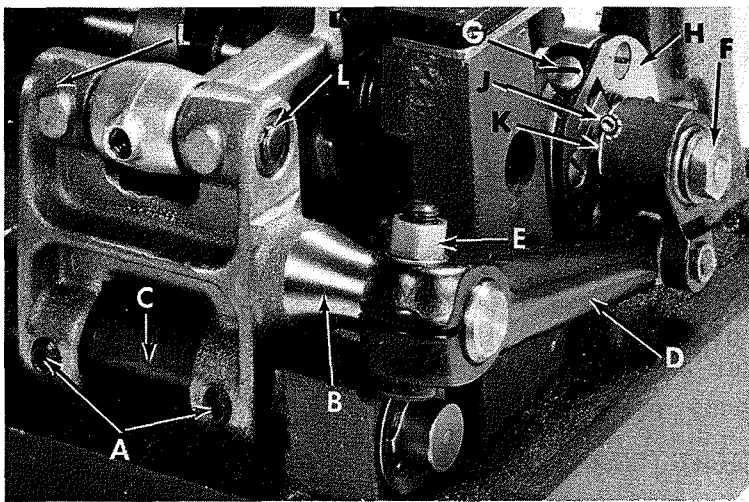

Fig. 11
Should it be necessary to move the feed dog to the left or right, loosen screws (A, Fig. 11) which hold the feed rocker (B) onto the feed rocker shaft (C), and move feed rocker to desired position and retighten screws. Make sure the feed rocker arm (D) does not bind after making this adjustment.
Should it be necessary to move the feed dog forward or backward, loosen nut (E, Fig. 11) which clamps the feed rocker arm to the feed rocker and move the feed rocker forward or backward as needed and retighten nut.
Set the stitch to required length. This is accomplished by loosening locknut (F, Fig. 11) 1/2 turn (it has a left hand thread) on the end of the stitch regulating stud and turning the stitch adjusting screw (G) located under the left end of the cloth plate, in the head of main shaft (H), which is marked with "L" and "S". Turning the screw clockwise shortens the stitch (moves stitch regulating stud toward the "S") and turning it in a counterclockwise direction lengthens the stitch (moves stitch regulating stud toward the "L"). Retighten locknut securely. To prevent destructive damage to the feed drive bearing, Key screw (J) must engage the "U" shaped key slot in ferrule (K).
Machines having needle bearings in the feed rocker at locations (L, Fig. 11) may require repacking after years of service. Bearings should be thoroughly cleaned and repacked with Union Special Corporation grease No. 28604 P.